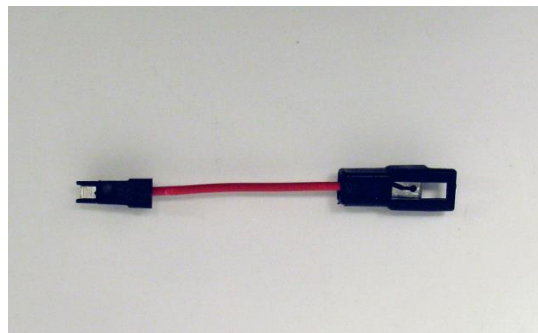

Figure 42 – 1979-82 Jumper Harness
39. For 1968-78 applications install the red wire with the black connector from the new harness into an open slot on the fuse block labeled “battery”. For the 1979-82 applications you will first need to plug in the provided jumper harness (Figure 42) into the black connector on the red wire from the new harness and then plug the jumper harness into the ATO style fuse block. Use an open slot labeled “battery”.